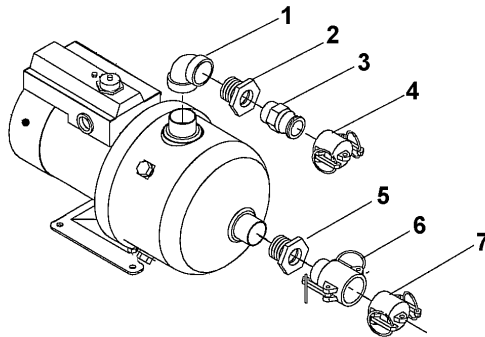

Figure 3. Booster and Backwash Service Pump.
1. Remove male camlock (3) and dust cap (4). See Figure 3.
2. Remove bushing (2) and elbow (1) from the pump.
3. Unthread female camlock (6) and dust plug (7).
4. Remove bushing (5) from pump.
1. Refer to Figure 3 for this procedure section.
2. Install elbow (1) on the pump.
3. Install bushing (2) on the elbow (1).
4. Install male camlock (3) and dust cap (4).
5. Install bushing (5) on the pump.
6. Install female camlock (6) and dust cap (7).